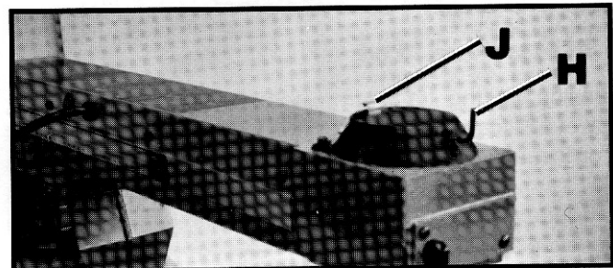

Fig. 46
7. Loosen adjustment screw, located at the rear of cap, with a long handle allen wrench (H) Fig. 46, and move pointer (J) until it lines up with the "zero" mark on the miter scale.